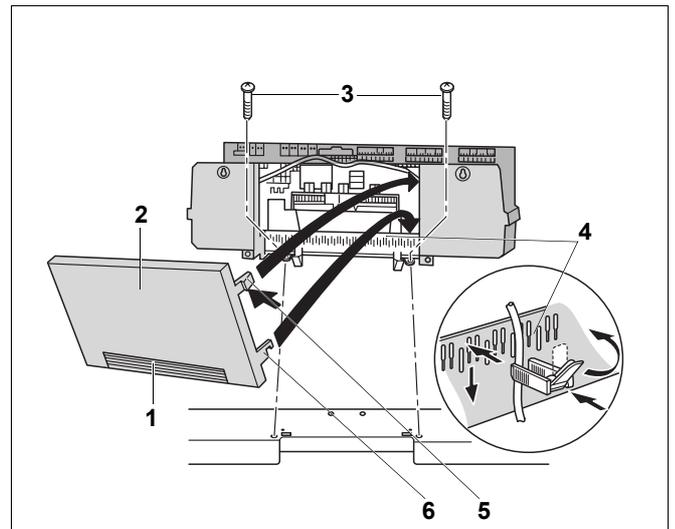

Fig. 15 Remove the rear panel
- Secure the control unit on the front boiler cover using two screws at the l.h. and r.h. rear of the cable duct (Fig. 15, **item 3**).
If necessary, you can break out or cut out the knockout (Fig. 15, **item 1**) in the rear panel section (Fig. 15, **item 2**).
- Insert both lower hooks (Fig. 15, **item 6**) on the r.h. and l.h. side of the rear panel (Fig. 15, **item 2**) into the clip frame (Fig. 15, **item 4**), keeping the slot in the upper edge.
- Push both upper push-in hooks (Fig. 15, **item 5**) slightly inwards (see arrow) and insert the rear panel (Fig. 15, **item 2**) so that both hooks lock into place.